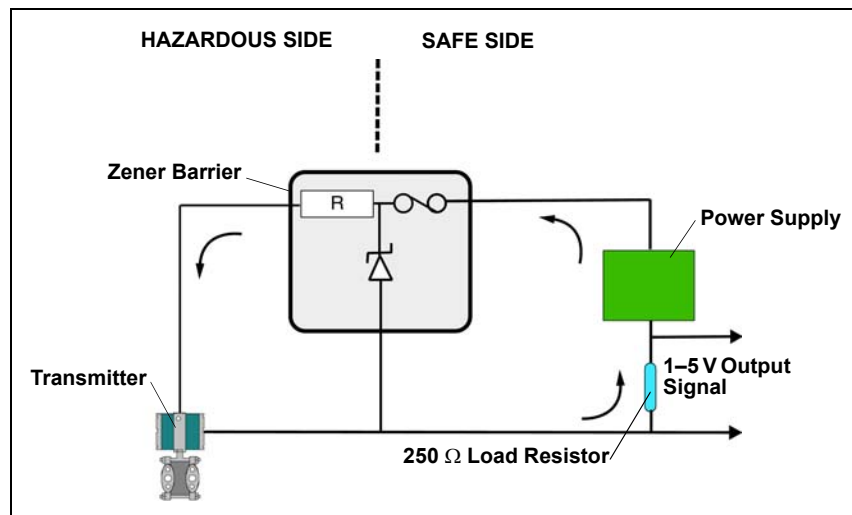

Figure 6: 4–20 mA Loop with a Zener Barrier
- *Shunt-diode (zener) barriers* that use a high-quality safety ground connection to bypass excess energy (Figure 6)